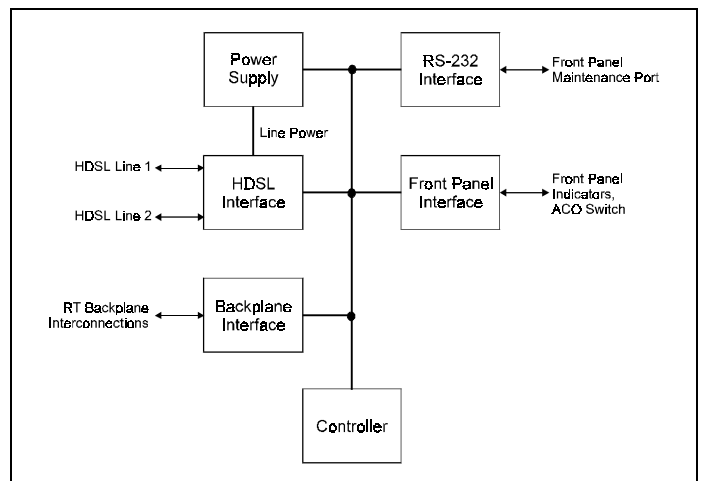

Figure 3. FRL-772 Block Diagram.
6.01 The FRL-772 RT Line Unit includes a remote (line-powered) power supply, HDSL line transceivers, performance status indicators, and RS-232 Maintenance Port (see Figure 3). Through the Maintenance Port, the system configuration and status may be checked and HDSL performance monitored.